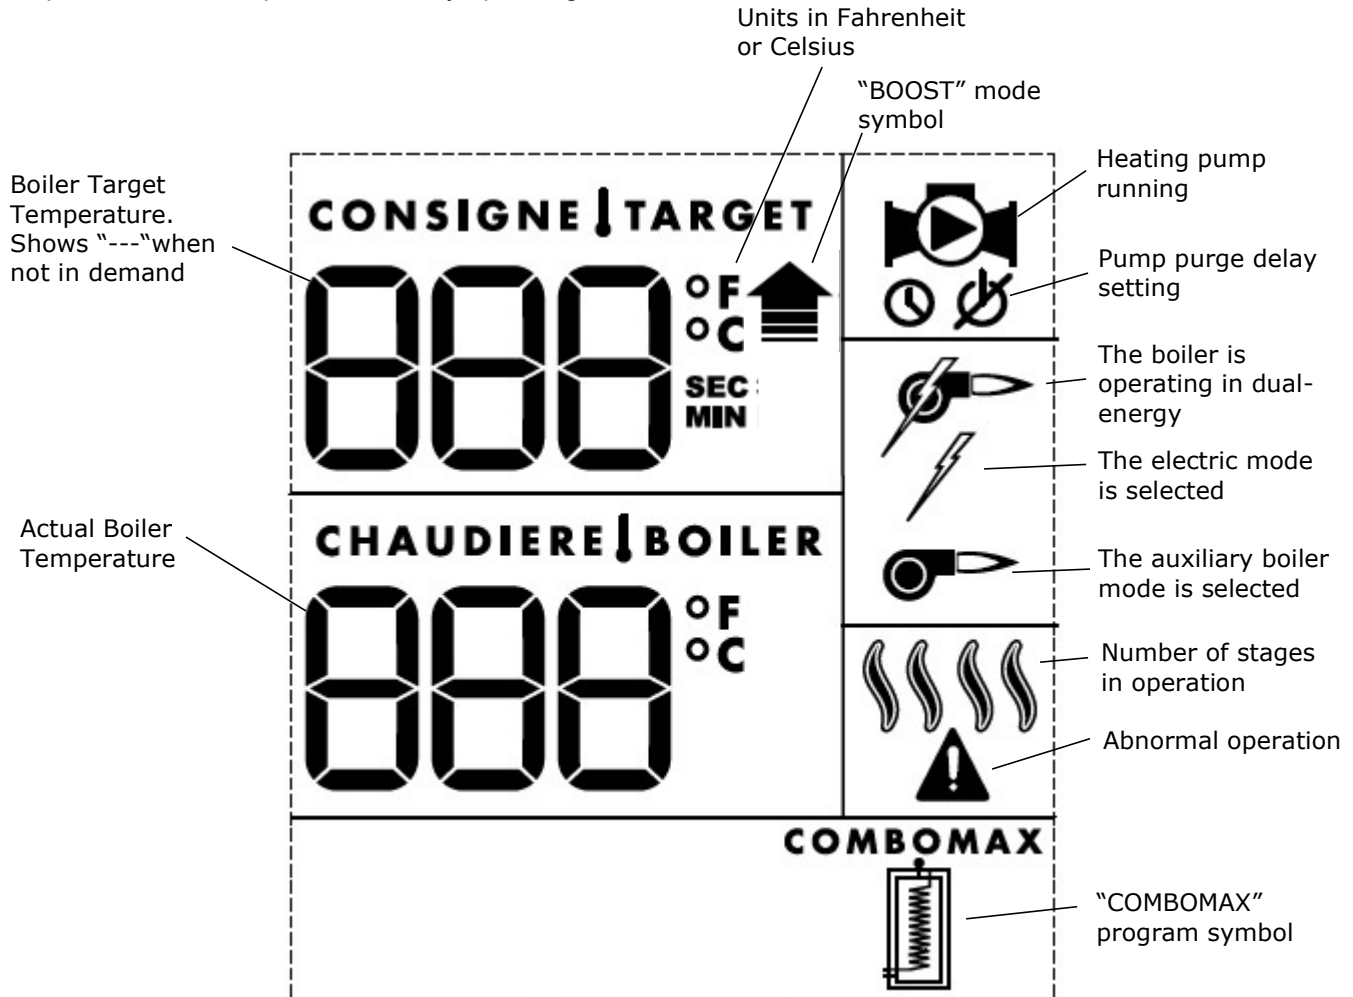

Figure 17: UltraSmart Controller Display
2. Make sure the Combomax symbole is displayed on the bottom right corner of the LCD screen as on figure 17. if it is not showing, call technical support.